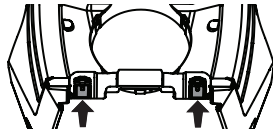

Fig. 8
3. Once the hood topper is in place, the two locking tabs near the rear of the hood need to be pushed upward to lock the hood topper in place (Fig. 8).